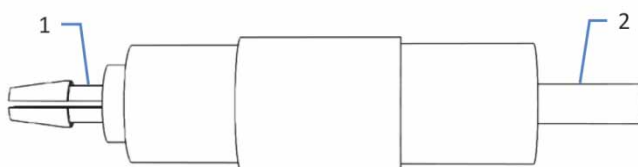

Figure 44: Seal-handling tool
- Seal-handling tool (see Figure 44, page 140)